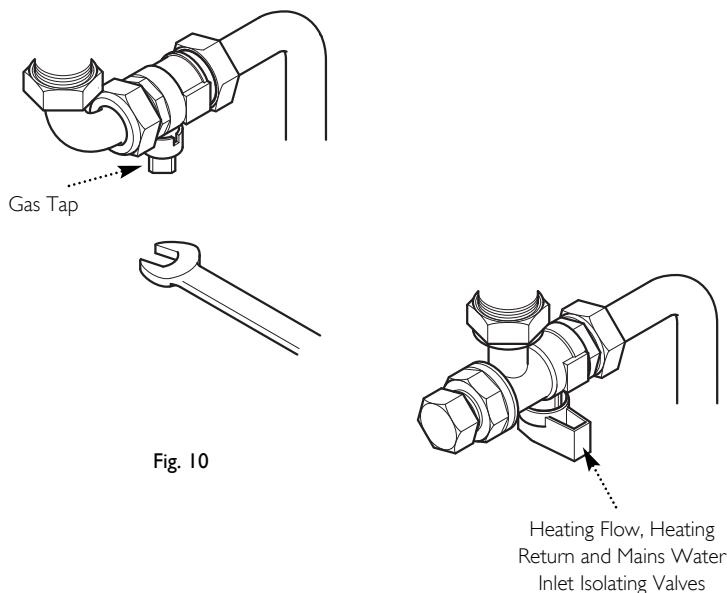

Fig. 10
1. Using a suitable open ended spanner, turn the square nut on the gas tap through 90° ( $\frac{1}{4}$  turn) to isolate the gas supply at the boiler (Fig. 10).
2. The water isolating valves are positioned under the boiler and can be closed by turning their taps to the right towards the wall (Fig. 10).